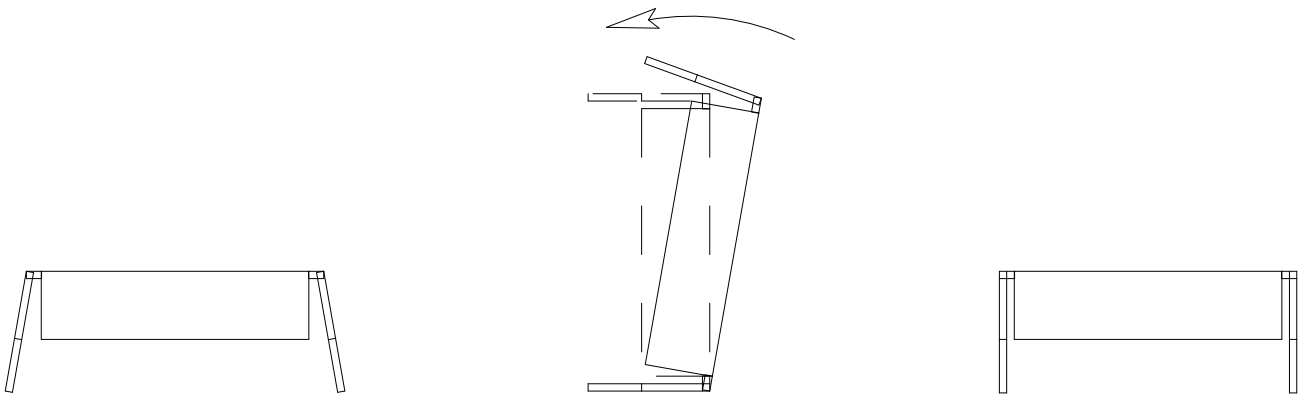

Figure 4
1. The pins on the new EPROM may be bent out at an angle as shown in Figure 4. Do not try to install the EPROM without first bending the pins inward, or the pins may be damaged. Lay the EPROM on its side on a hard flat surface as shown, and carefully roll it toward the pins to bend the lower pins into line. Then turn it over and bend the pins on the other side in the same manner.